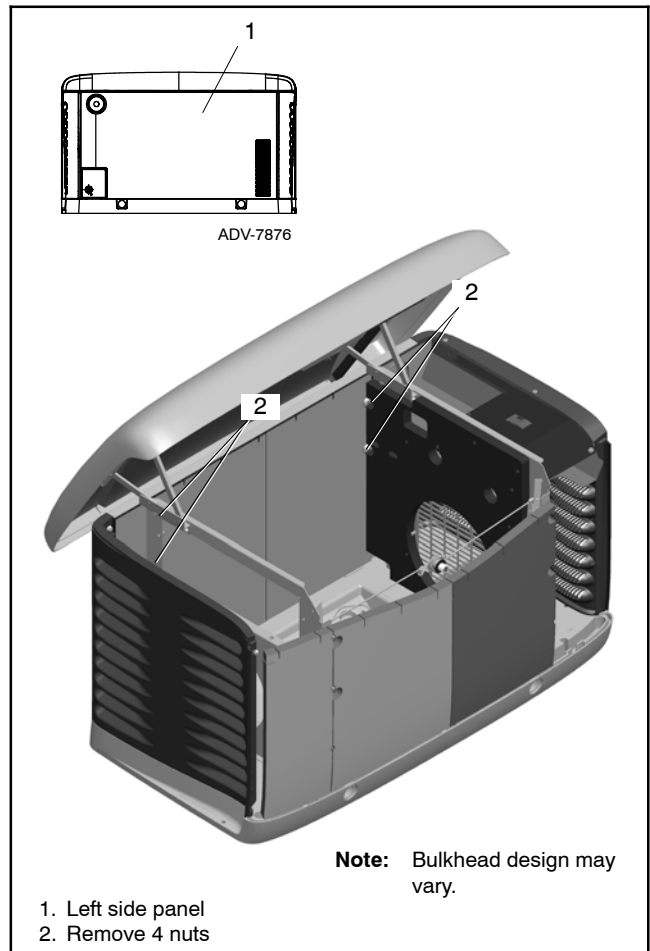

Figure 7-7 Left Side Panel
- From the inside of the enclosure, remove four nuts securing the left side panel. See Figure 7-7.